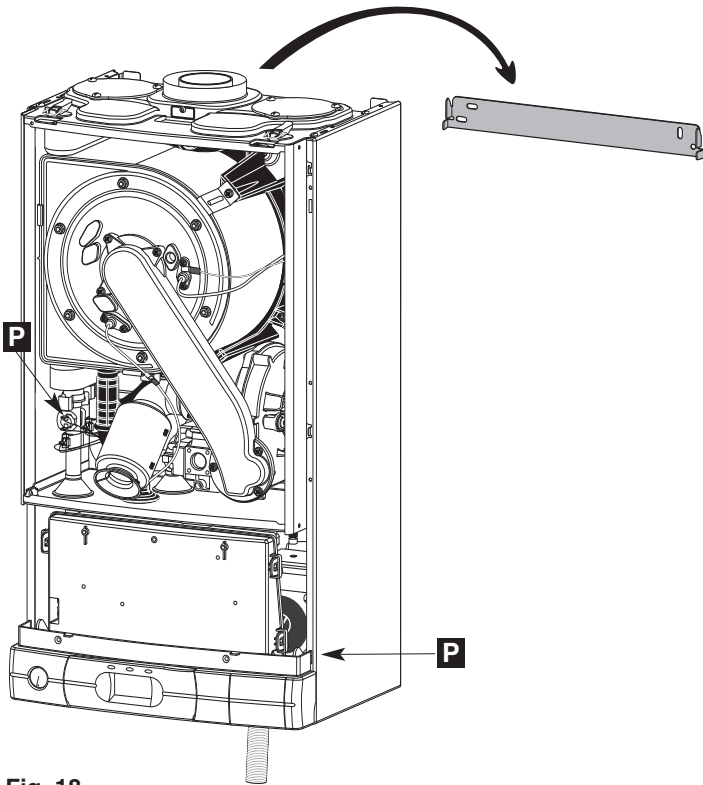

Fig. 18
Place the boiler on the wall on the hanging bracket (Fig. 18).
- Push in the tabs "P" (Fig. 18) on either side of the boiler and pivot the electrical box forward to gain access to the valve connections